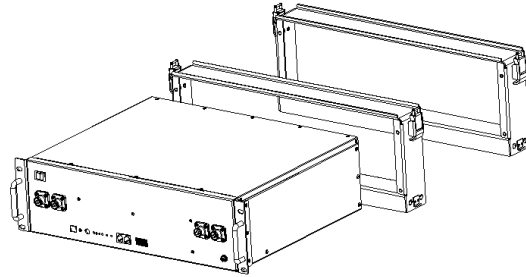

Figure3-4
1. As shown in the figure3-4, place two B3 brackets side by side with a spacing of 300mm and push the B3 in.